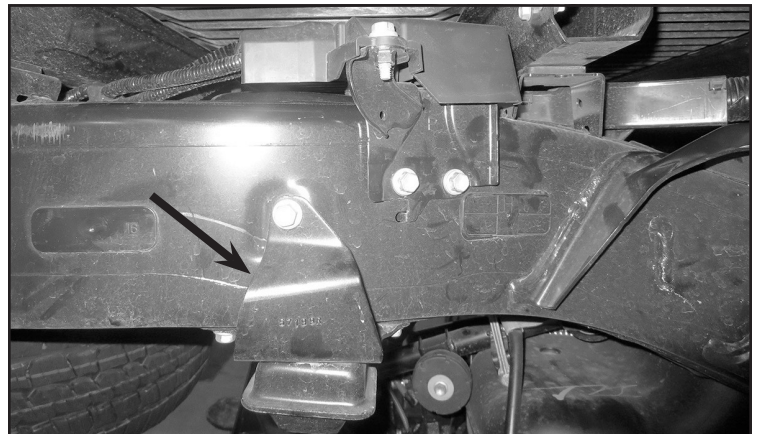

FIGURE 22 - STEP 24
24. Remove the factory rear bumpstops from the frame. Save hardware. **SEE FIGURE 22**